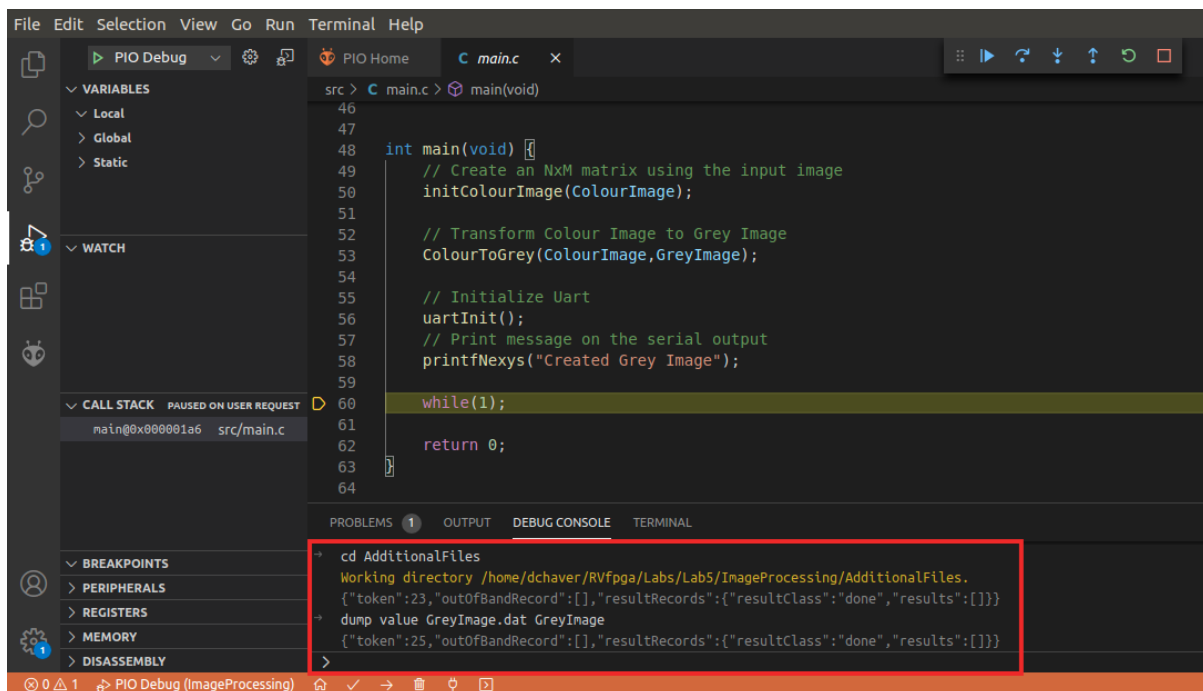

Figure 4. Export the greyscale image to a file
7. Export the grey image (*GreyImage*), by running the following commands in the Debug Console (see Figure 4, which shows the execution of these two commands):